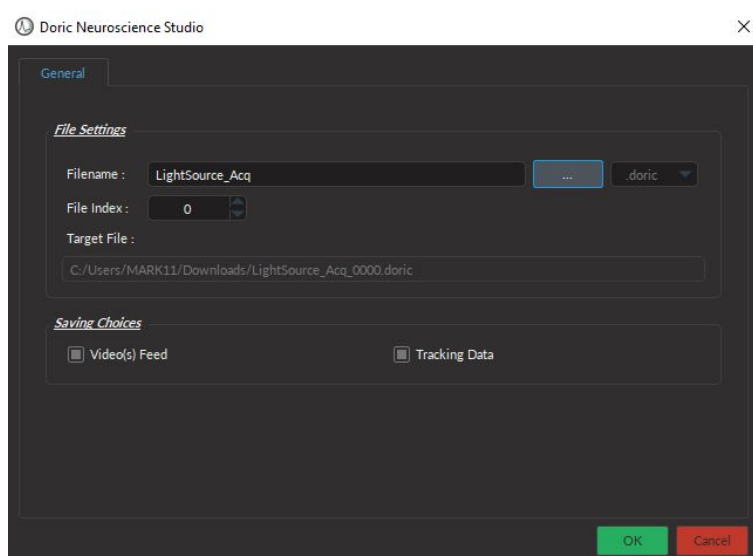

Figure 6.4: Saving Option
5. The **Saving Options** button (Fig. 6.4) defines the File Name, File Index, and Target File for recording video.
Specifically, using the **General** tab user can specify the following (Fig. 6.4):